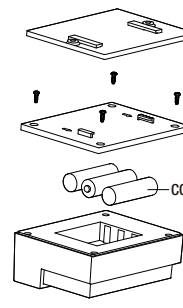

Figure 3
1. To install the batteries (CC) remove 4 small screws on back of the light with a small screwdriver. (Figure 3)